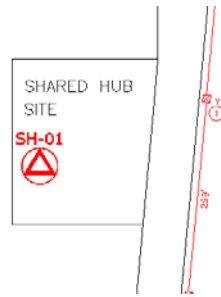

Figure 61 – Place new Shared Hub **SH-01**
**Notes:** If you added the **USED\_SQ\_FTG** block attribute as described in Step 18, you will also see the value of Used Square Ftg. shown on the map. This is not shown in Figure 61, above.